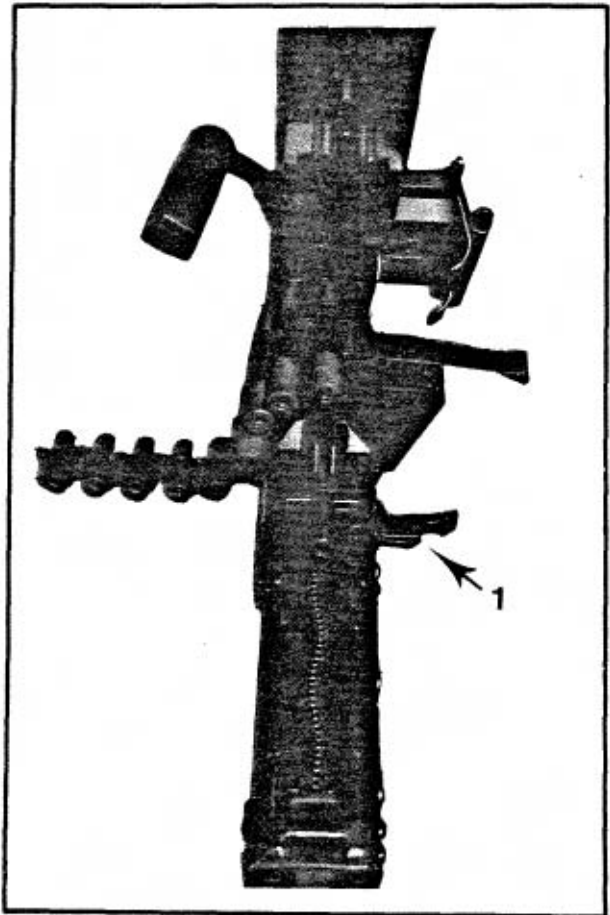

FIG. 3-85. ROUND IN PLACE
2. Close receiver and pull charging handle backwards, then push forward. (Fig. 3-85).